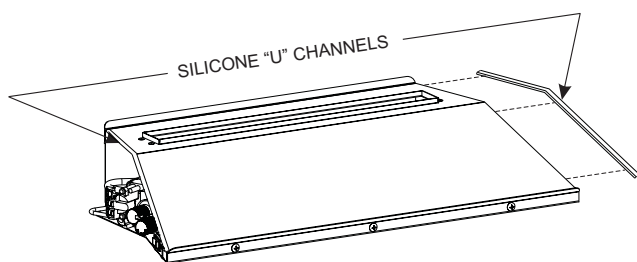

Figure 29
2. Before applying the glass to the burner top, attach the black silicone "U" channel edges (located in the Instruction Envelope) to each side of the Top Cover. See Figure 29. These "U" channels will help keep the decorative glass from falling over the outside edges of the Top Cover.